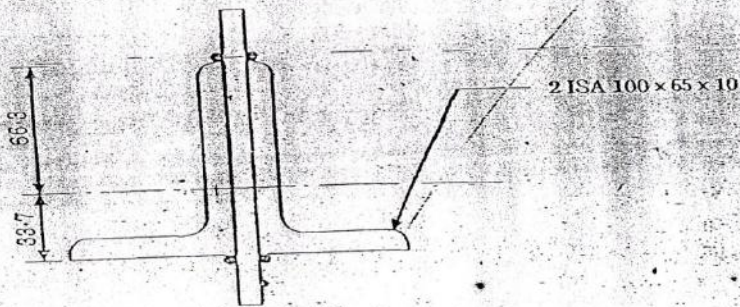

Figure 2-5
12. (a) A tension member in a truss consists of a pair of angles ISA $100 \times 65 \times 10$ mm welded on either side of a 12 mm thick gusset plate, using a 7 mm weld. Design the welded joint, shown in Figure 2-5. 12